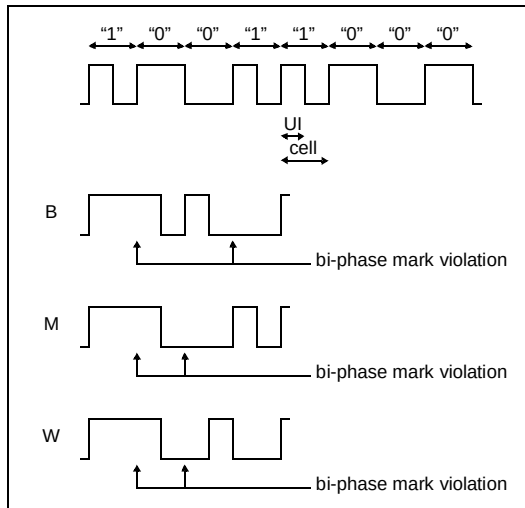

**Figure 10-3. Bi-phase mark data transmission**
**Figure 10-3** illustrates the transmission format of 8-bit data value “10011000”, as well as the transmission format of the 3 pre-ambls. Note that each pre-amble always starts with a rising edge. This is made possible thanks to the presence of the parity bit, which always guarantees an even number of ‘1’ bits in each sub-frame.